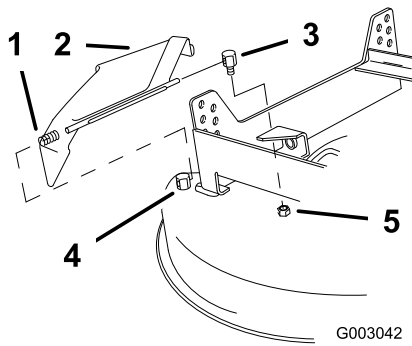

Figure 55
1. Remove the locknut holding the rear deflector pivot post to the mower and remove the rear pivot post (Figure 55).
2. Remove the deflector assembly from the front (fixed) deflector pivot post and remove the deflector assembly from the mower (Figure 55).
5. Install the rear deflector pivot post onto the mower and tighten the locknut (Figure 55).